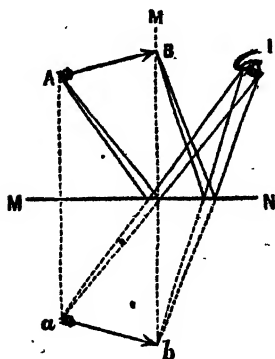

FIG. 7.
1. When the mirror is plane, as in Fig. 7, by the laws of reflection already stated,  $a$  is the focus of all the rays coming from  $A$ . Similarly,  $b$  is the focus of all the rays from  $B$ . Rays from all the points between  $A$  and  $B$  have their foci between  $a$  and  $b$ . Thus a complete image of  $A B$  is formed in  $a b$ . The